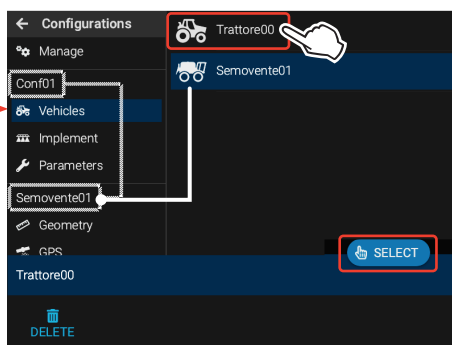

Fig. 36
- Press the vehicle to be paired (Fig. 36).